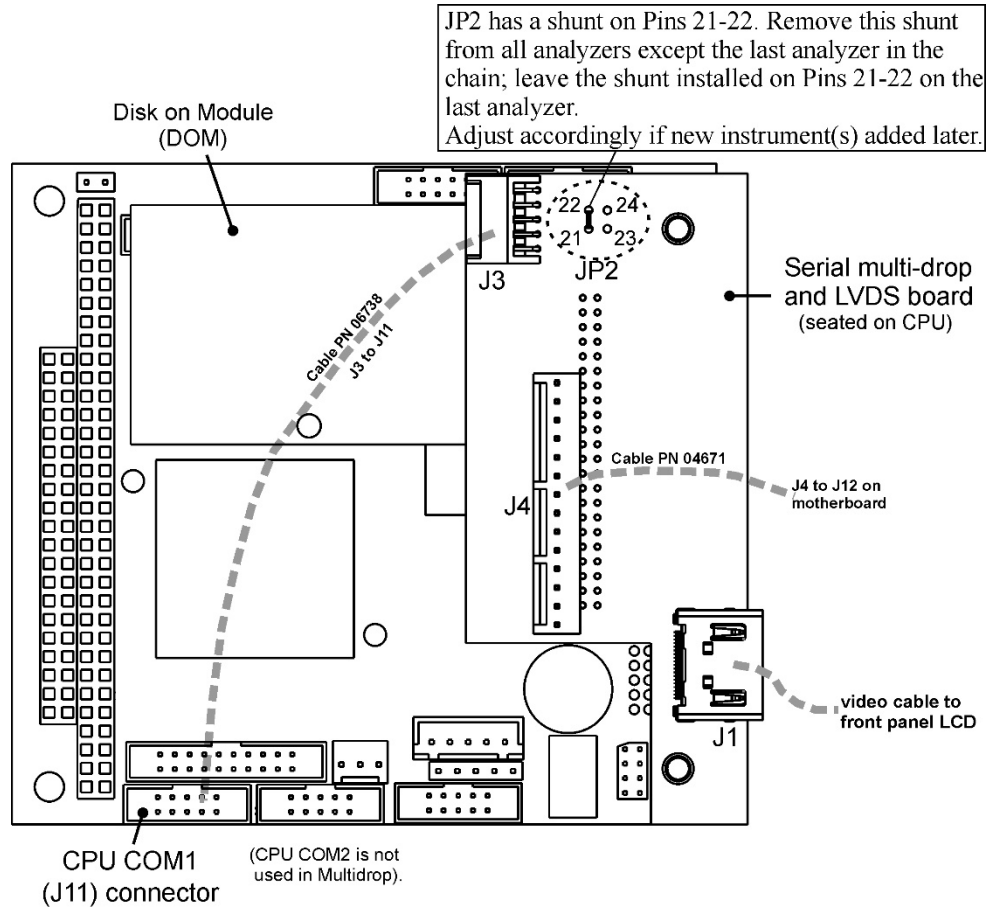

Figure 2-13. Jumper and Cables for Multidrop Mode
In each instrument with the Multidrop option there is a shunt jumpering two pins on the serial Multidrop and LVDS printed circuit assembly (PCA), as shown in Figure 2-13. This shunt must be removed from all instruments except that designated as last in the multidrop chain, which must remain terminated. This requires powering off and opening each instrument and making the following adjustments:
2. On the Multidrop/LVDS PCA's JP2 connector, remove the shunt that jumpers Pins 21 ↔ 22 as indicated in Figure 2-13. (Do this for all but the last instrument in the chain where the shunt should remain at Pins 21 ↔ 22).
3. Check that the following cable connections are made in *all* instruments (again refer to Figure 2-13):